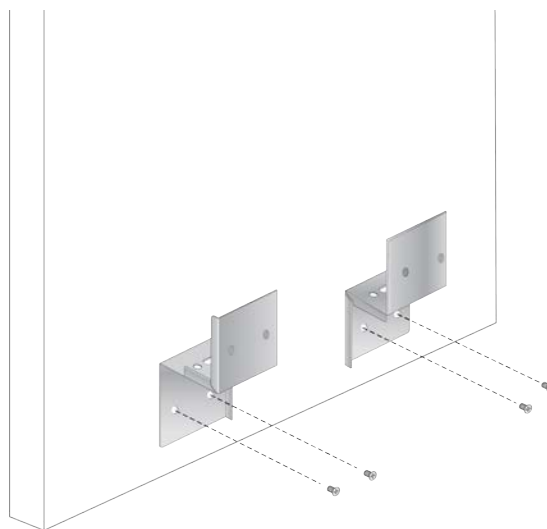

Figure 26. Driving the Screws through the Holes
6. Position two brackets on the wall and drive screws through the holes to attach the brackets on the wall. See Figure 26.